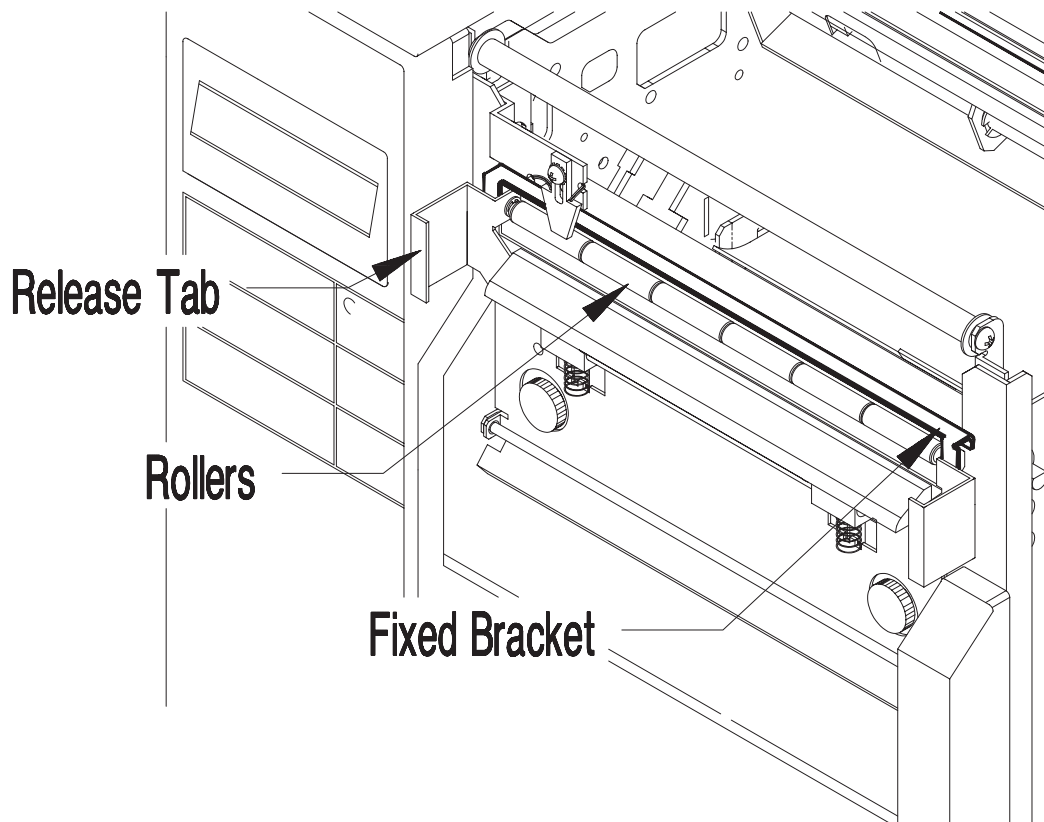

Figure 2-11. Peel and Present Mechanism
3. Thread the media over the top of the fixed bracket and under the peel roller of the roller bracket as shown in Figure 2-11.